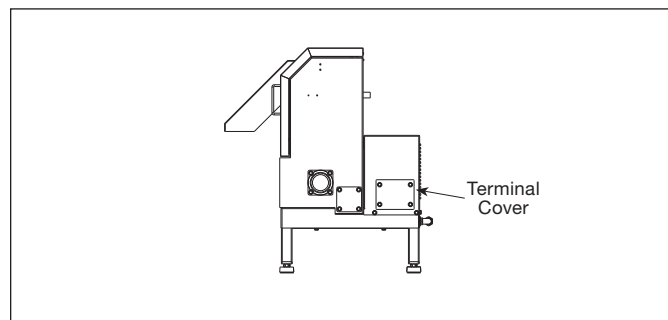

Figure 13.
3. Remove terminal cover from Waste Xpress (see Figure 13).
- A. Holding both handles remove discharge chute of the Waste Xpress by tilting it upward (see Figure 13).